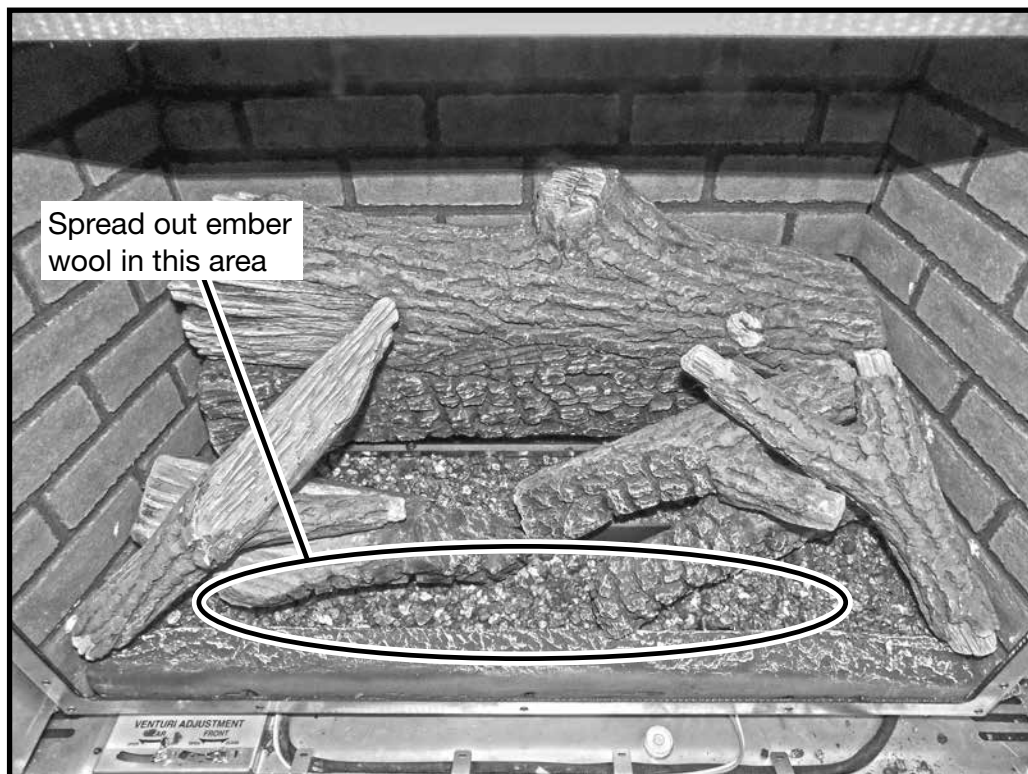

Figure 81: 6th log placement and ember wool distribution.
14. Place the 6th log (Figure 57) so that the top end rests on top of the 2nd log and the bottom end rests against the left wall panel and left base piece (Figure 81). The bottom end should be close to the front edge of the left base piece but not so close that it will be disturbed when re-installing the fireplace door.
16. Gently pull apart the individual pieces of the ember wool (Figure 59) so that they are not compressed or compacted and spread them in front of the logs to finish (Figure 81).